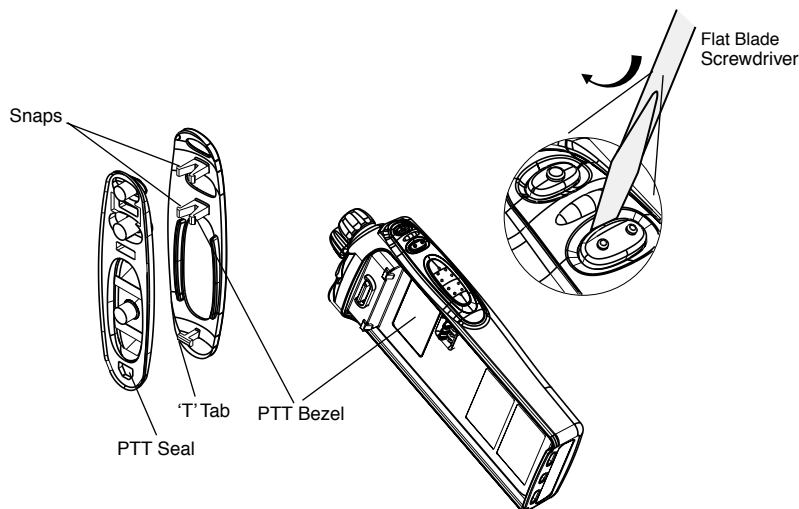

Figure 3-9 PTT Removal
- a. Insert the tip of a small screwdriver in between the bezel and side button 2 (refer to Figure 3-9).
- b. Insert the tip of a small screwdriver in between side button 2 and PTT button (refer to Figure 3-9).